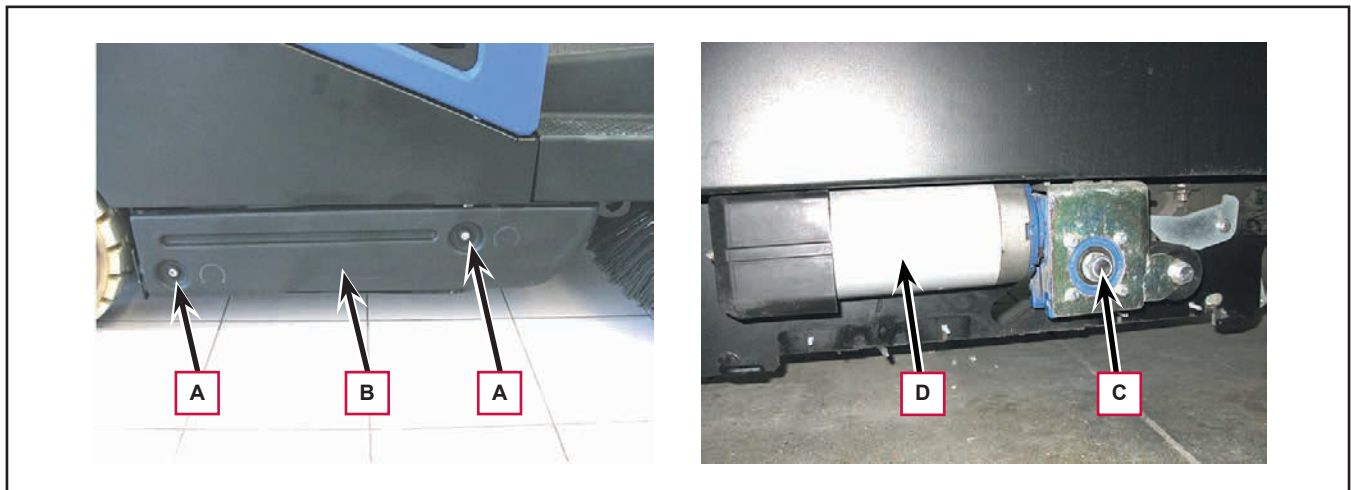

Figure 19
5. Unscrew the screws (A, Figure 19) and remove the right door (B).
6. Unscrew the nut (C) on the main broom motor (D).